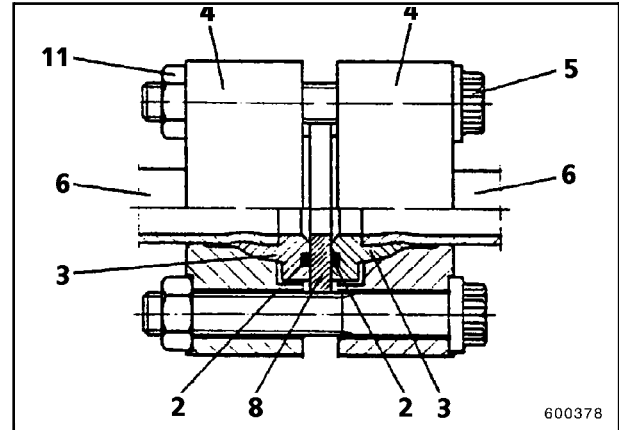

Fig. 3
¹⁾ If the second F-ring also has a seal ring groove (3, Fig. 3), a centre disk (8) and a second seal ring (2) must be used.